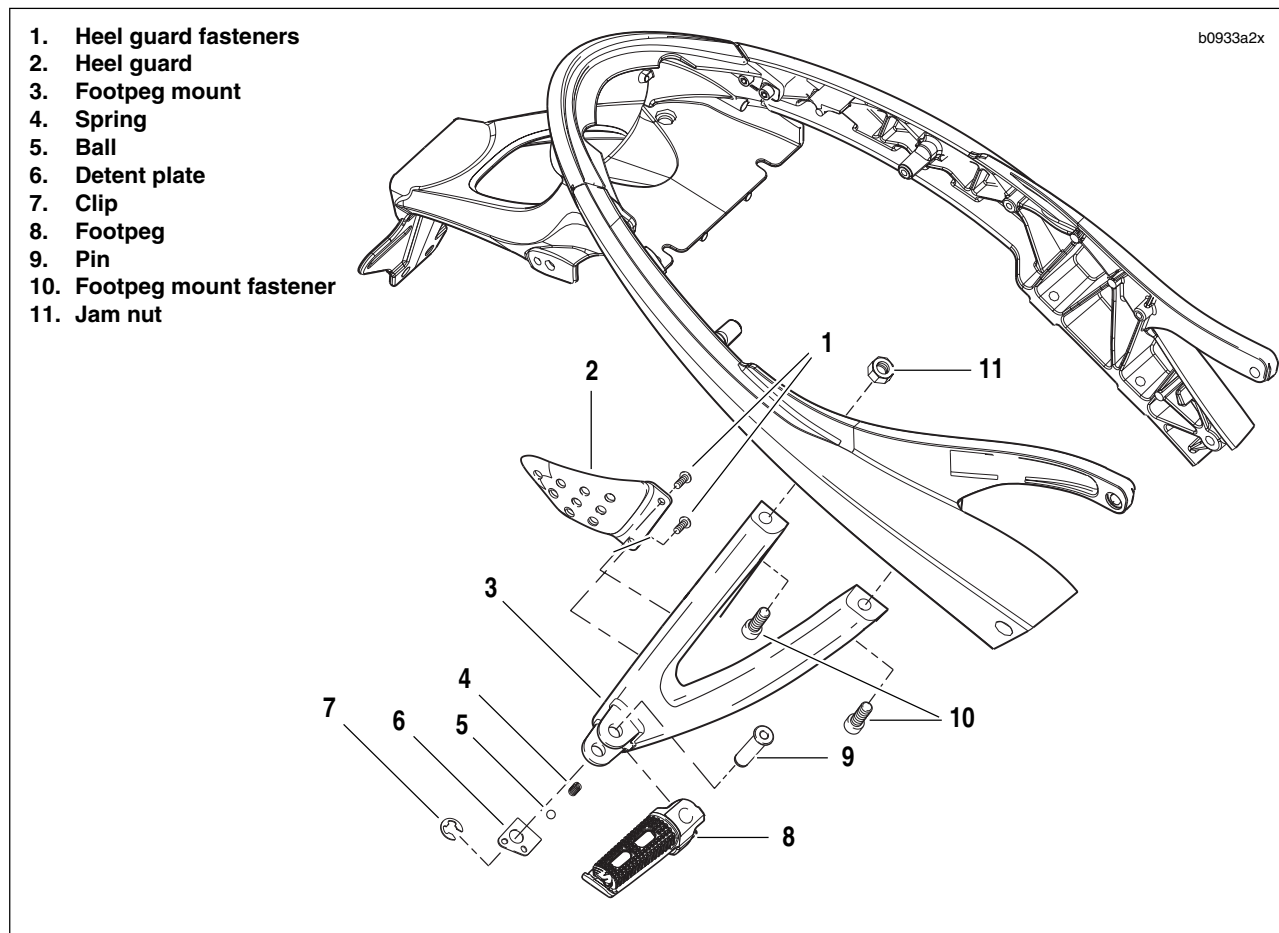

Figure 2-113. Passenger Footpeg, Mount and Heel Guard Assembly
1. See Figure 2-113. Remove clip (7).
2. Remove footpeg pin (9).
3. Remove footpeg (8), detent plate (6), ball (5) and spring (4).
1. See Figure 2-113. Remove heel guard fasteners (1).
2. Remove heel guard (2).
1. See Figure 2-113. Remove footpeg mount fasteners (10).
2. Remove footpeg mount (3).
1. See Figure 2-113. Position footpeg mount (3) onto tail section.
2. Apply LOCTITE 272 (Red) to footpeg mount fasteners (10), install and tighten to 25-28 ft-lbs (34-38 Nm).
3. Install jam nut (11) and tighten to 48-72 **in-lbs** (5.4-8.1 Nm).
1. See Figure 2-113. Position heel guard (2) onto footpeg mounts (3).
2. Install heel guard (2).
1. See Figure 2-113. Position footpeg (8), detent plate (6), ball (5), and spring (4) on to footpeg mount (3).
2. Install footpeg pin (9).
3. Install clip (7).